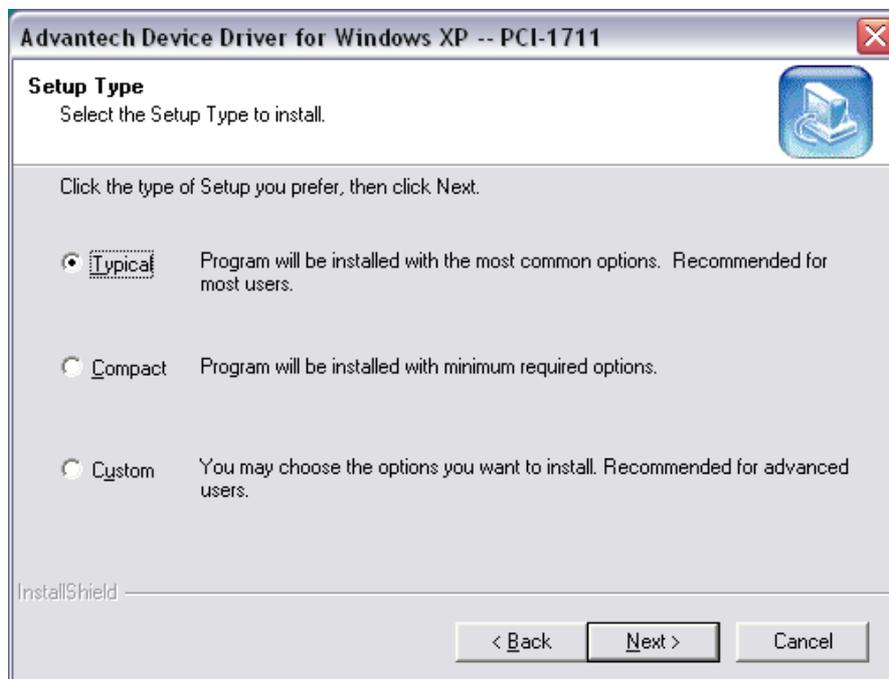

Figure 14 Setup Type Window
14. Click 'Next' to proceed. Select the Typical installation (Figure 14) and click 'Next' to continue to the setup information window.